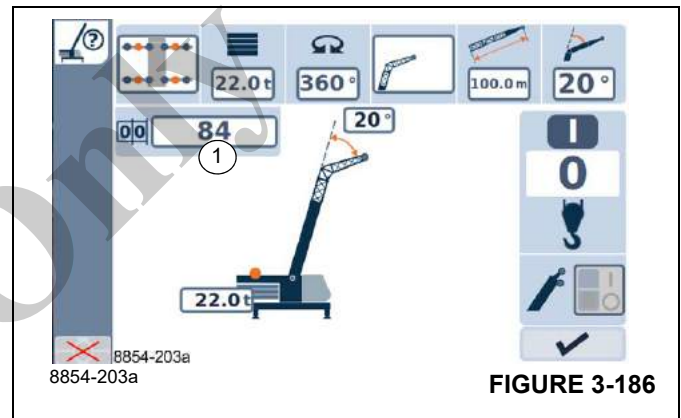

**FIGURE 3-185**
Select symbol (1), (Figure 3-185) and confirm – menu is opened.